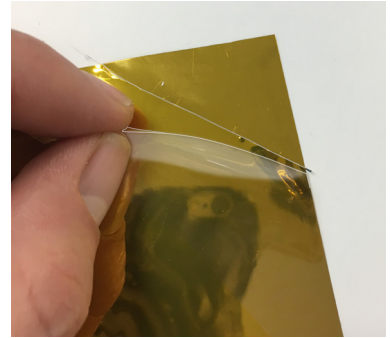

Figure 03
- › Place the cutter tip in the notch and lift the protective film. (FIG. 03)